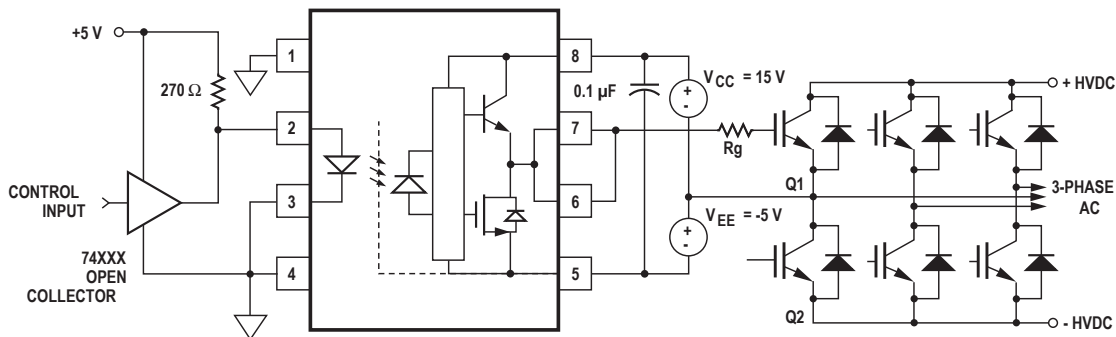

Figure 30. ACPL-3130 Typical Application Circuit with Negative IGBT Gate Drive.
**Step 1: Calculate  $R_g$  minimum from the  $I_{OL}$  peak specification. The IGBT and  $R_g$  in Figure 30 can be analyzed as a simple RC circuit with a voltage supplied by the ACPL-3130.**
For the circuit in Figure 30 with IF (worst case) = 16 mA, Rg = 8 Ω, Max Duty Cycle = 80%, Qg = 500 nC, f = 20 kHz and TA max = 85°C: